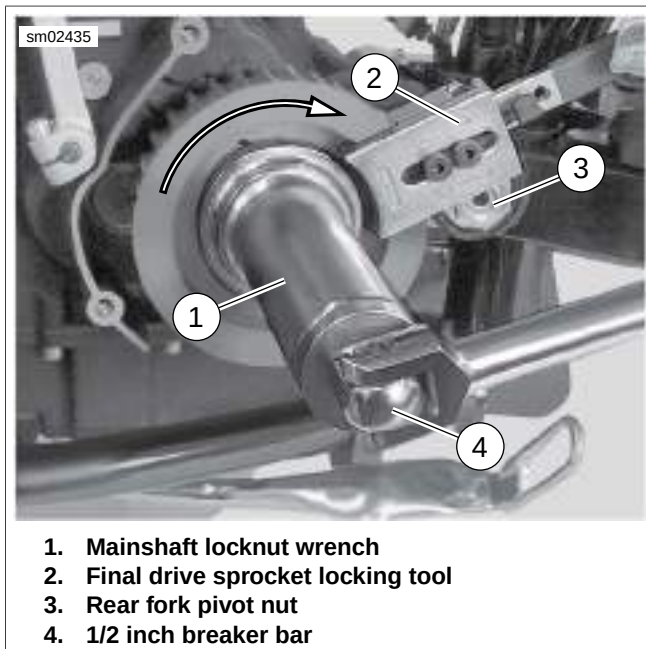

Figure 5-41. Sprocket Nut Installation (Typical)
3. See Figure 5-41. Lock transmission sprocket with the FINAL DRIVE SPROCKET LOCKING TOOL (Part No. HD-46282-A) (2). Final drive sprocket locking tool must rest against upper portion of rear fork pivot nut (3).
5. Using MAINSHAFT LOCKNUT WRENCH (Part No. HD-47910) (1), tighten sprocket nut to 35 ft-lbs (47.5 Nm) initial torque.